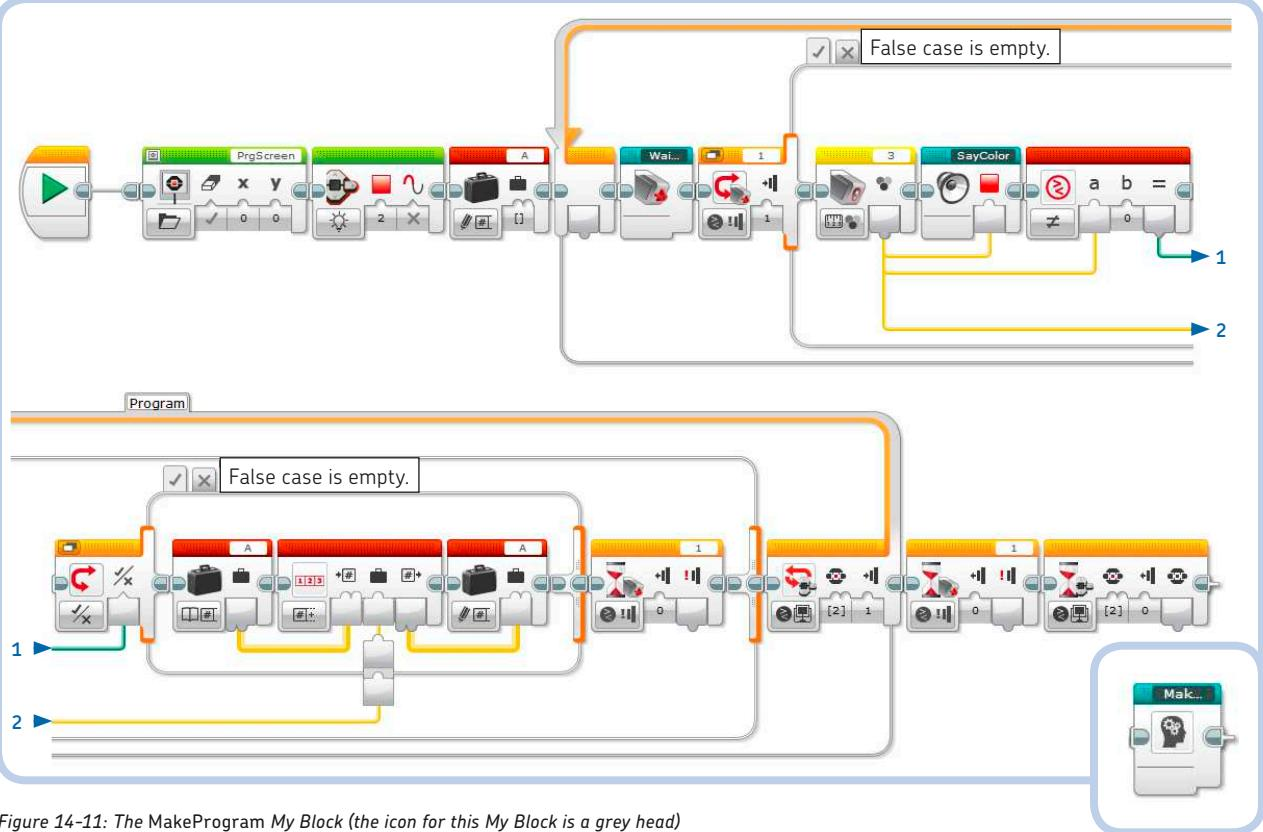

Figure 14-11: The MakeProgram My Block (the icon for this My Block is a grey head)
The *MakeProgram* My Block (Figure 14-11) allows you to record a program for the robot at runtime by showing the three colored sides of the COLOR CUB3 to the Color Sensor and entering the color codes by pressing the Touch Sensor. You can add actions to the program corresponding to the colors white (6), red (5), and black (1).